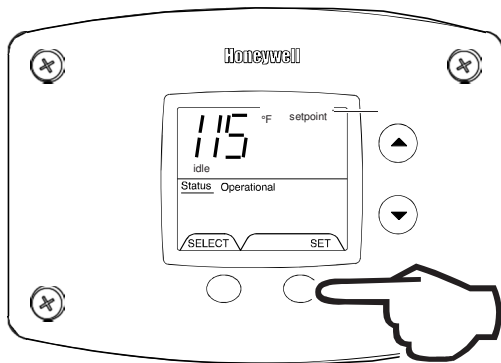

Fig. 50
2. Press the 'Set' button to enter the setting mode. 'Setpoint' will flash in the water heater display (Fig. 50).
3. To raise the temperature setpoint, press the 'Temperature Up' button until the desired temperature is shown on the water heater display (Fig. 50).